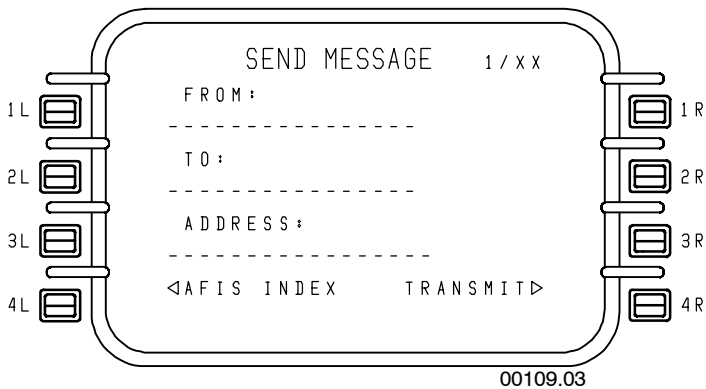

Figure 6-61
- **SEND MESSAGE 1/XX** – Figure 6-61 is accessed through the AFIS INDEX. Each message must contain data in the FROM, TO, and ADDRESS lines. The FROM and TO lines are limited to 16 characters. The address line is limited to 17 characters. Exceeding the character limit will result in an INVALID ENTRY message.